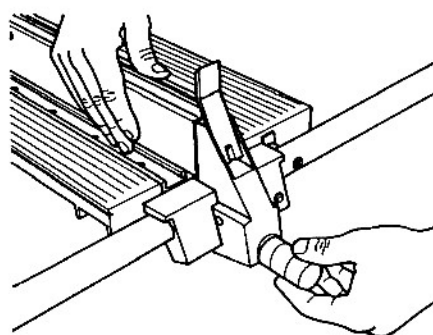
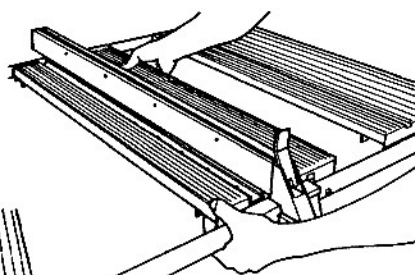

Fig. C-13
Fig. C-14
21. Mount the fence on the middle fixed extension table, and align the fence base with the miter slot, as shown by the right hand in Fig. C-14. When it is aligned, tighten the base knob, as shown by the left hand in Fig. C-13.
22. Grab the extension table, as illustrated in Fig. C-14, and move it until the miter slot is aligned with the fence along its entire length.